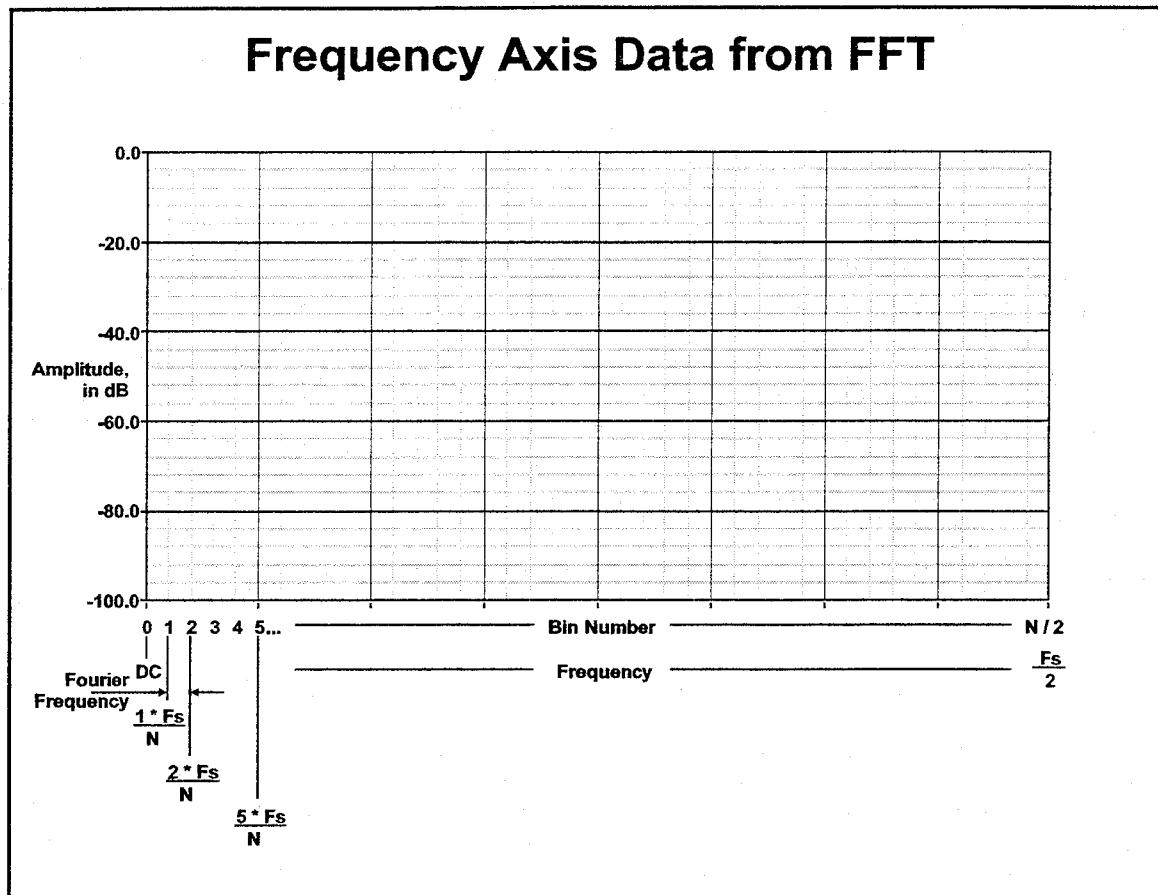

Figure 6.8
Referring to Figure 6.8, a DFT/FFT of a coherent sample set will produce $N + 1$ spectral components called *frequency bins*. The transform generates a mirror duplicate of the first $N/2$ points in the second $N/2$ bins, so the second half is discarded and only the first $N/2 + 1$ bins are used. The first bin (bin 0) is the DC component. The resolution of the spectrum (the width of each frequency bin) is determined by the UTP of the sample set and is called the *Fourier frequency* (FF) or *frequency resolution* ($Fres$):